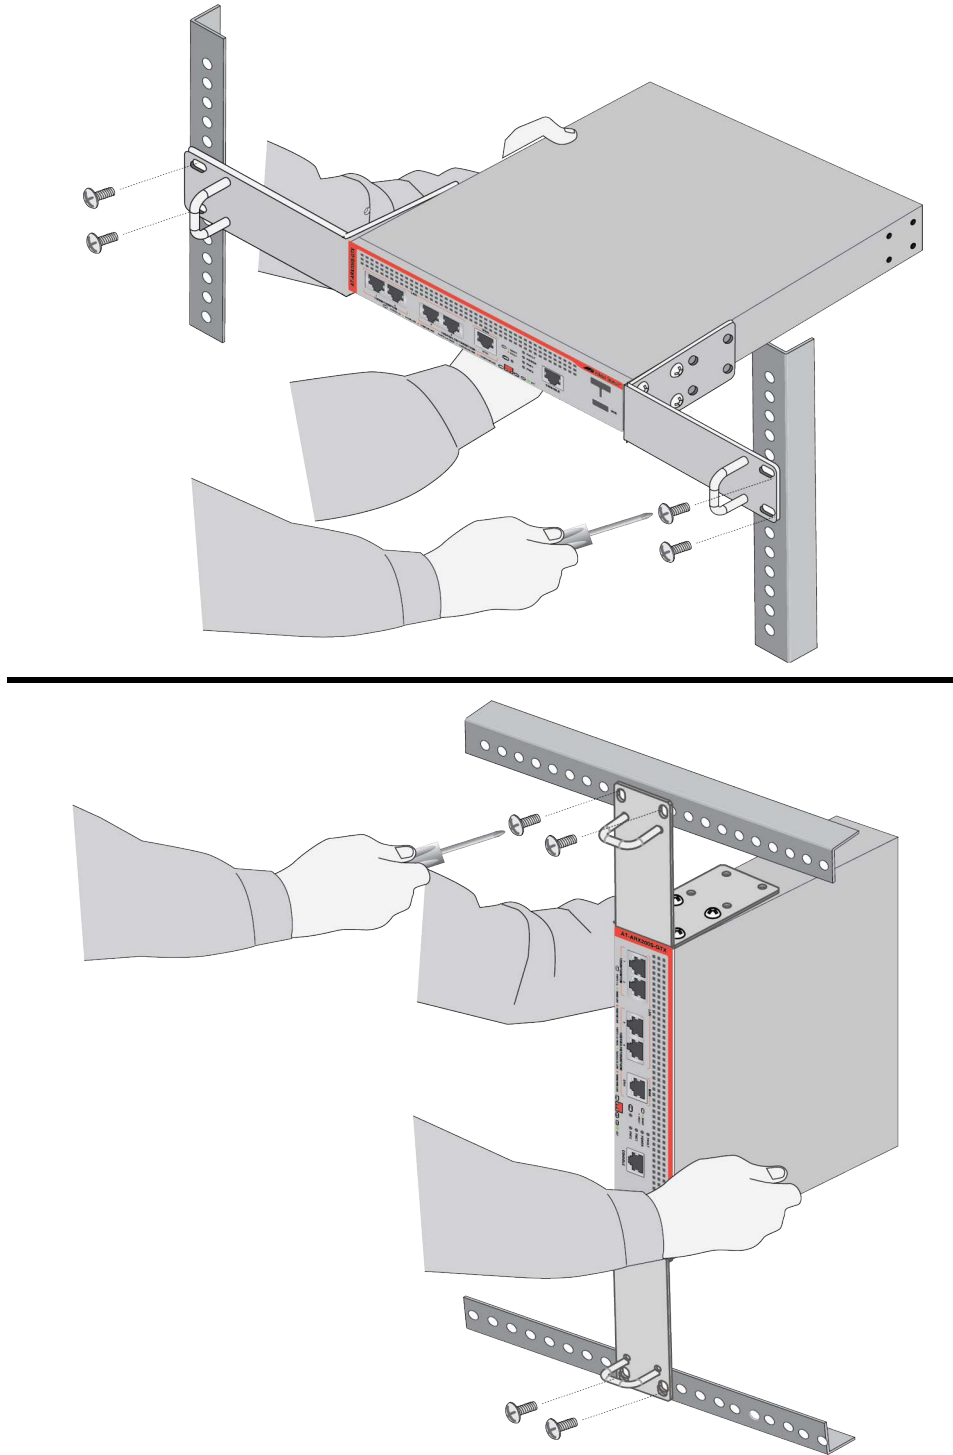

Figure 35. Securing the Router in the Equipment Rack
7. Have another person hold the router in the equipment rack at the selected location while you secure it using four standard equipment rack screws (not provided). Refer to Figure 35.